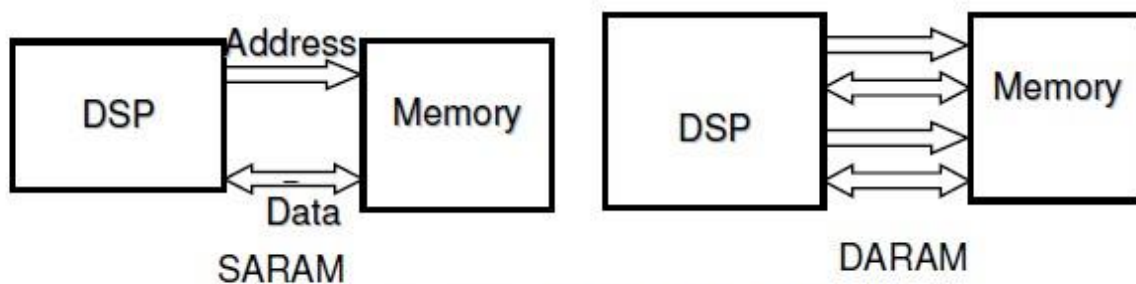

Fig. 7.3: SARAM & DARAM
- The program memory can be extended externally to 8192K words. That is, 128 pages of 64K words each. The arrangement of memory and DSP in the case of Single Access RAM (SARAM) and Dual Access RAM (DARAM) is shown in fig. 7.3.